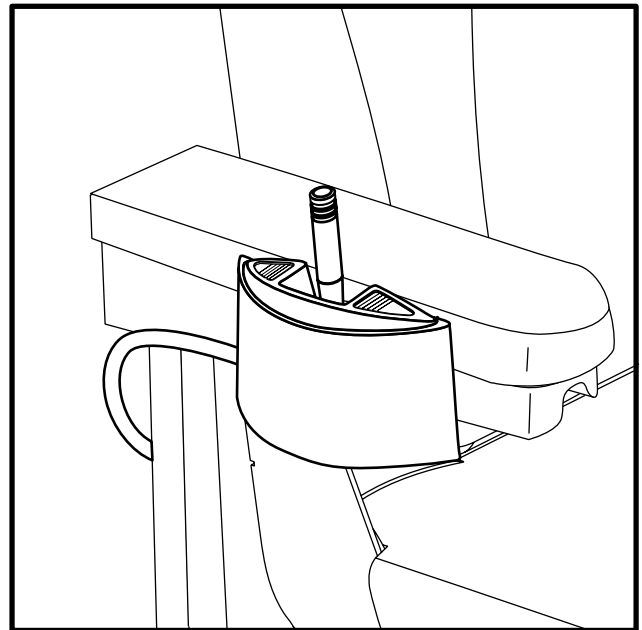

Figure 24. Power Seat Toggle Switch
1. Press forward on the toggle switch to raise the seat. See figure 24.